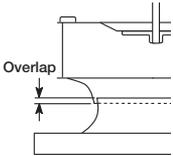

Figure 4
6. Rotate the wheel by hand to ensure that it does not rub and rotates freely. Wheel position is preset and the unit is test run at the factory. Movement may occur during shipment and realignment may be necessary. Refer to Figure 4 and chart for proper overlap dimensions.